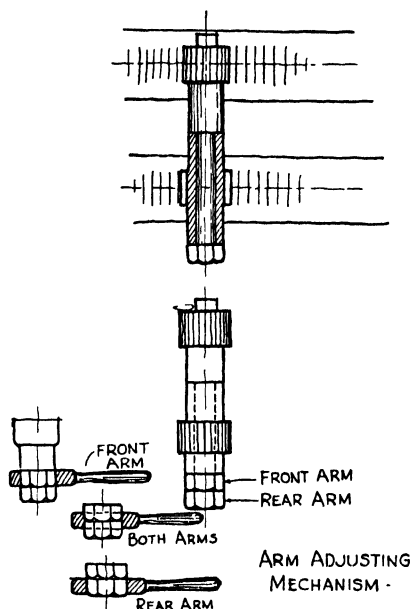

FIG. 202. IDEA SKETCH FOR IMPROVEMENT
only natural that at this moment he would seize a pencil and any scrap of paper to record the new idea at once in the form of a freehand technical sketch (page 235). Such a sketch is shown in Fig. 202, of an "Arm Adjusting Mechanism" for a milling machine.* See Fig. 203 (handle in upper left portion of milling machine).
* Figures 202 to 207 are reproduced through courtesy of the Brown & Sharpe Mfg. Co.